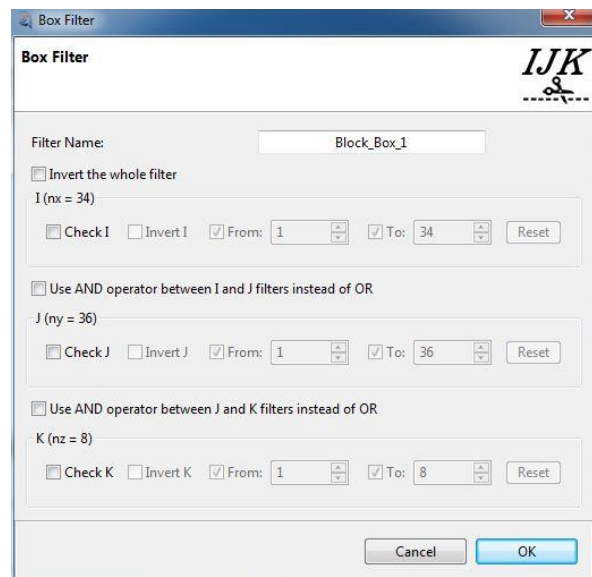
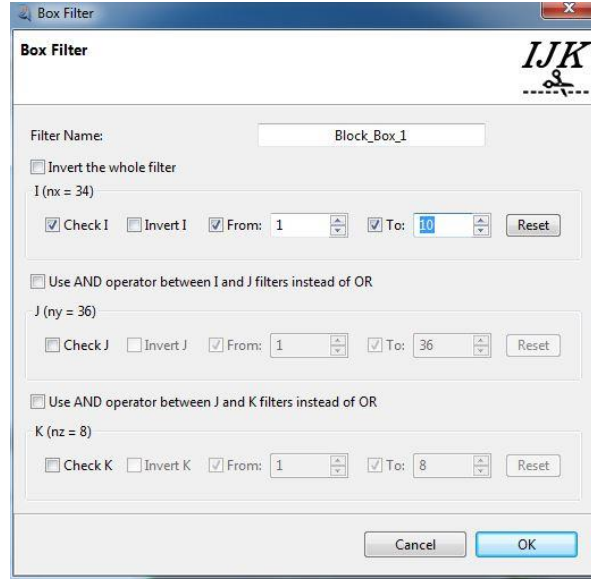

Figure 22 Adding Block Box Filter
Figure 23 Adding Block Box Filter Index of 2 to 10 in the “I” Direction
1. *Block Box Filter*: the dialog of the Figure 22 is displayed if user wants to add block box filter. Initially none of the boxes are checked which means no filter is added to 3D view. The name of the “Block_Box_##” is assigned to the defined block box filter, by default; this name is editable. For adding filter on each direction, user should just check the related box and enter the minimum and maximum index in the specified direction. For example the Figure 23